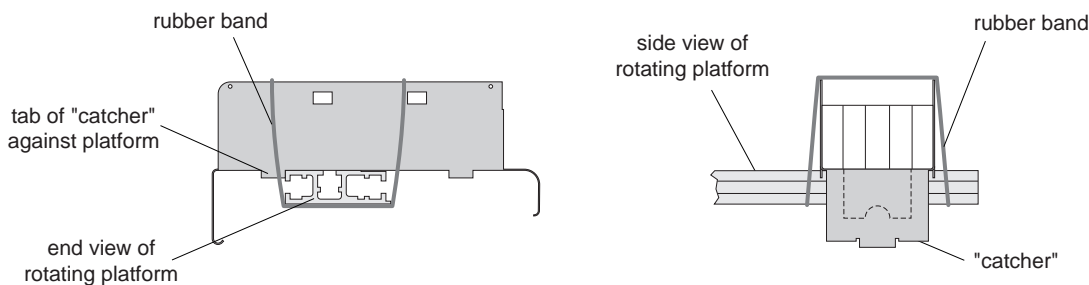

Figure 1.4: Attaching the Catcher to the Track
- ① Find the mass of the ball and record it in Table 1.3.
- ② Attach the ball catcher to the track using a rubber band as shown in Figure 1.4.